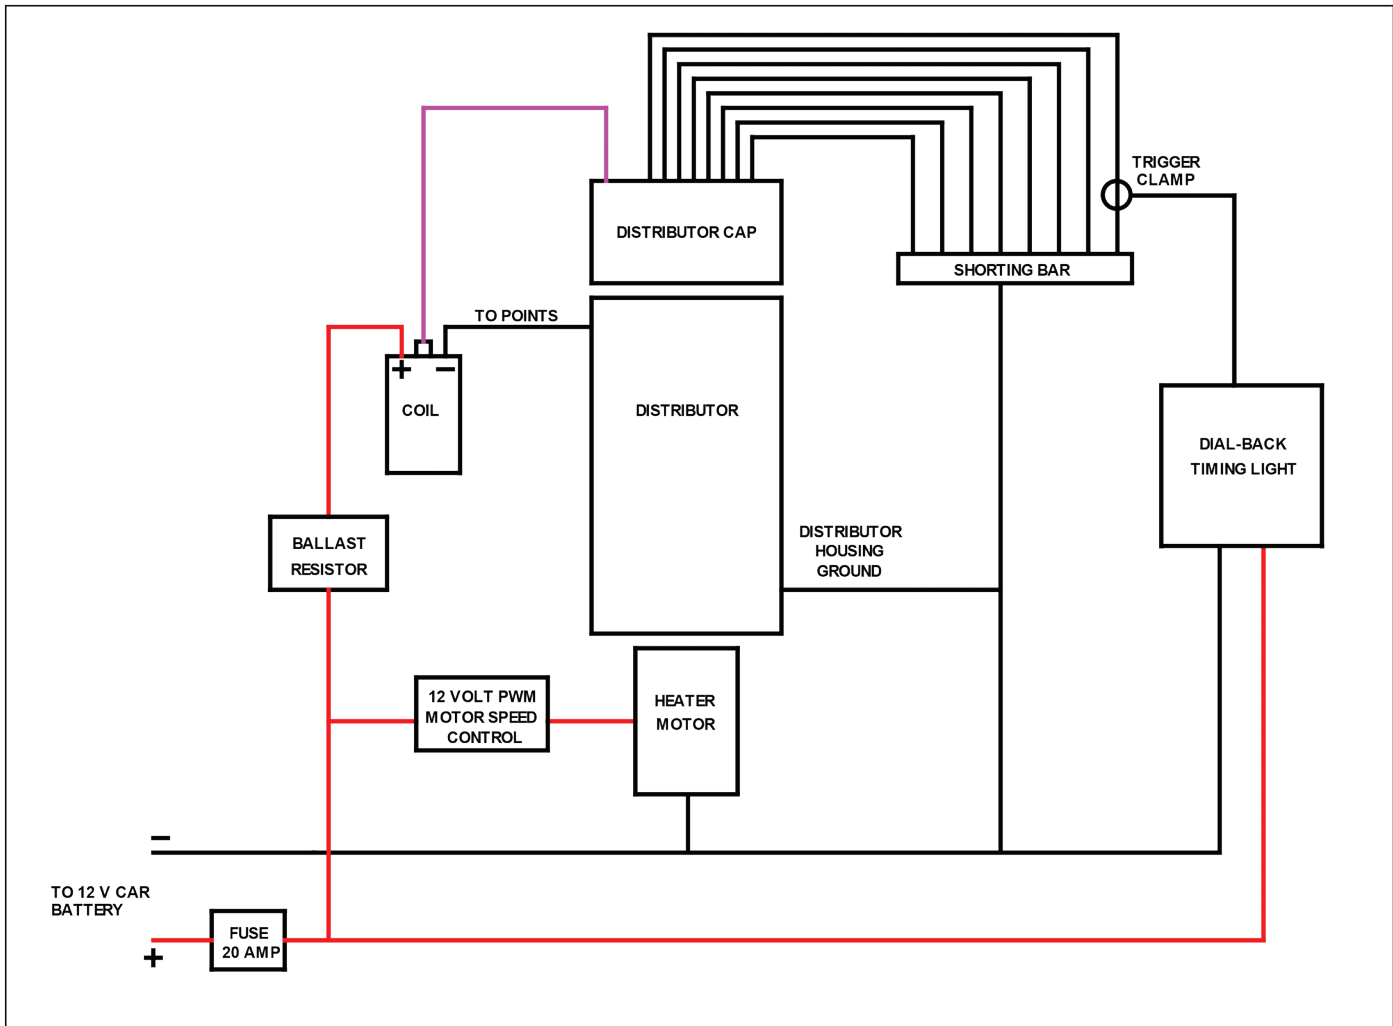

Fig. 9: Schematic of distributor test fixture
1. Figure 9 shows the electrical schematic for the test fixture. If your coil was intended to be used with a ballast resistor or a resistor wire, this resistance should be included in the power connection to the coil. My understanding is that except for the transistorized ignition system, all Corvette coils from 1955 to 1974 were designed to have some resistance in the 12V supply lead to the coil. Without this resistance, the voltage applied to the coil will be too high and both the coil and the points will be stressed while the fixture is running. I do not know the typical resistance of the resistor wire that GM substituted for the ballast resistor starting in 1968, but for coils designed to work with a resistance wire, it's probably adequate to simply use the 1.8 ohm